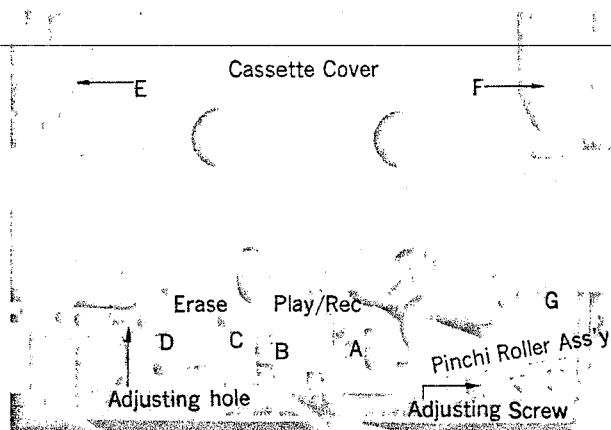

Fig. 5-5
- 1) At the state of STOP, adjust the Brake by inserting a \ominus type screw driver into an adjusting hole, as shown in Fig. 5-5.